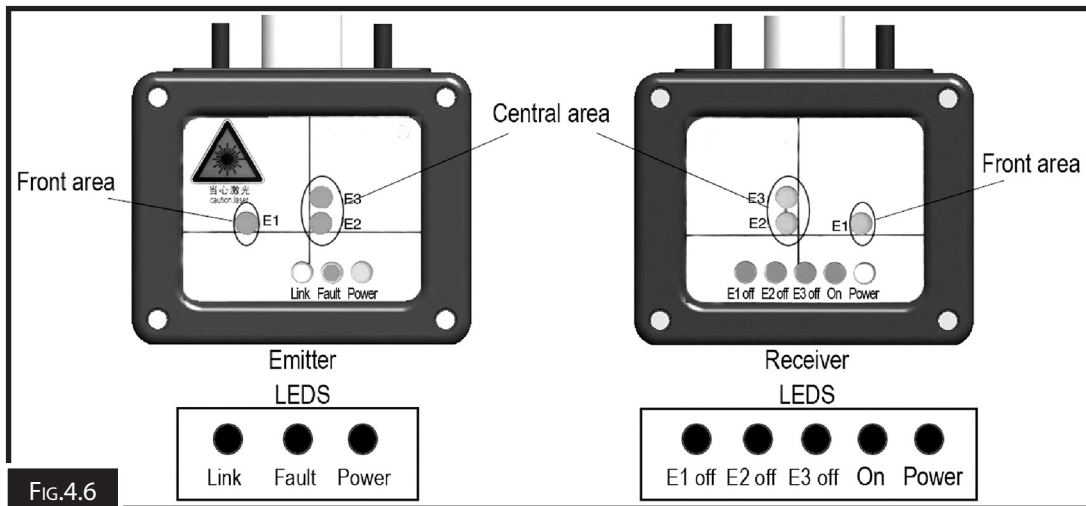

FIG.4.6
**Emitter** - The LINK LED on the emitter will be green to advise the emitter is linked with the receiver (Fig.4.6)
**Receiver**- Has a green "ON" LED (Fig.4.5) to indicate all 3 protection zones of the laser are aligned and linked. Protection zone E1, E2 & E3 lights turn RED when there is an obstruction (Fig.4.6)